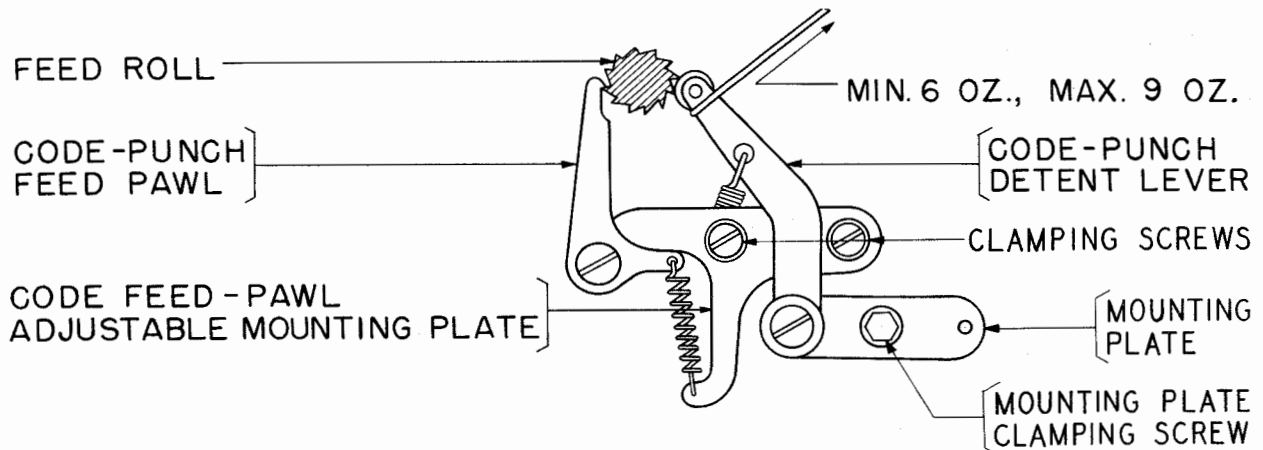

Figure 40
2.64 Code-punch Feed-roll Detent (Preliminary Adjustment): When a length of tape containing ten feed holes to the inch (check with the TP95960 tape gauge) is placed in the code-punch die-block and the code-punch feed-roll detent is resting in an indent between two teeth on the ratchet, the left edge of a feed hole shall be visible at the left edge of the die block when the feed holes in the tape are engaged with the pins on the feed roll. See Figure 40.
2.65 Code-punch Feed-pawl (Preliminary Adjustment): The feed pawl shall rest on the bottom of the first notch below the horizontal center line of the feed roll with the punch-arm roller on the lowest part of its cam. See Figure 40.
To Adjust: Loosen the feed-roll-detent mounting-plate clamping-screw and reposition the mounting plate by moving it up or down. Recheck the code-punch feed-pawl adjustment given in 2.65. See Figure 40.
2.93 Code-punch Feed-roll-detent Spring: It shall require a pull as indicated in Figure 40 to start the code-punch detent-lever roller moving away from the feed-roll ratchet.